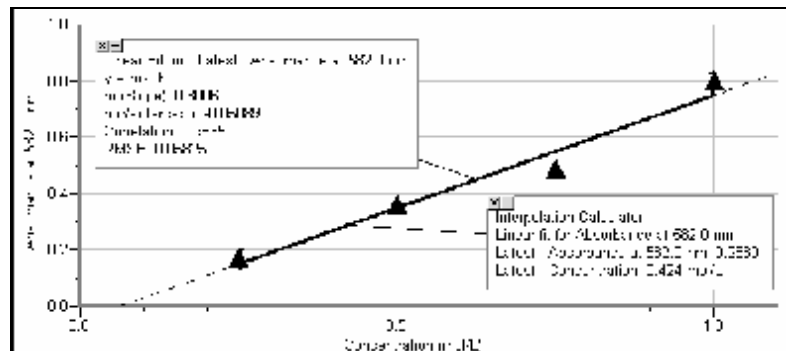

Figure 4: Typical Beer's law analysis of an unknown sample of crystal violet
5. Place an unknown sample of crystal violet solution in the cuvette holder. Choose Interpolation Calculator (**not** Interpolate!) from the Analyze menu. A helper box will appear, displaying the absorbance and concentration of the unknown. Click **OK** (see Figure 4).